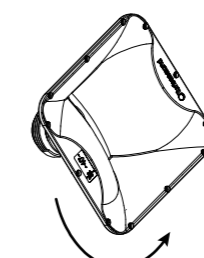

Fig. 5
6. Rotate the horn to achieve the desired coverage pattern (fig 5).